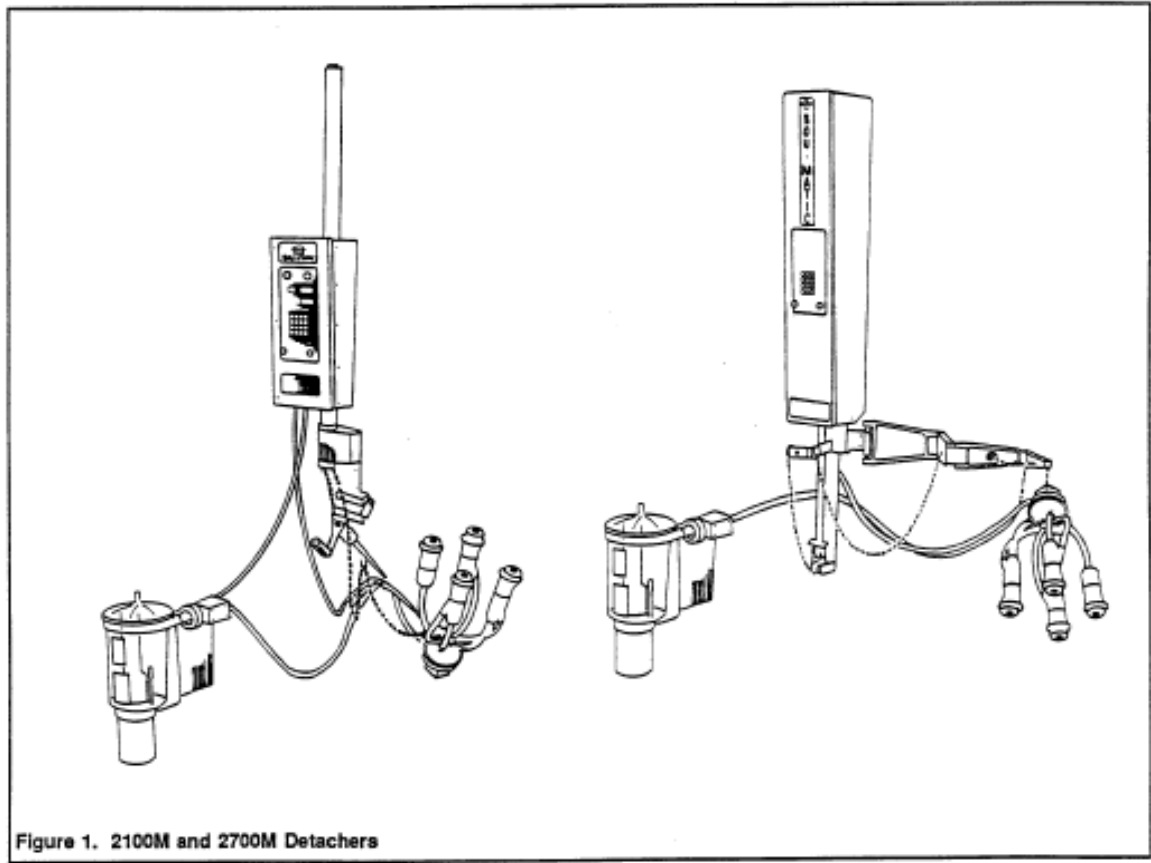

Figure 1. 2100M and 2700M Detachers
- 1. Determine which side of the meter the sampler will be mounted to. Then, mount the sampler bracket and meter bracket to the curb, using the fasteners used to mount the meter bracket.** (See Figure 1.) The slots in the sampler bracket should align with those in the meter bracket. Do not tighten the fasteners yet.